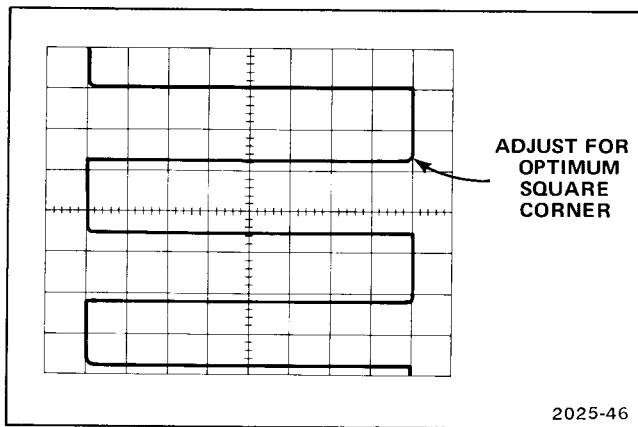

Figure 6-1. Typical crt display for adjustment of horizontal (X) compensation and gain.
- f. ADJUST—C393 (X High Freq Comp) for optimum square corner (see Fig. 6-1). Use a low-capacitance screwdriver.